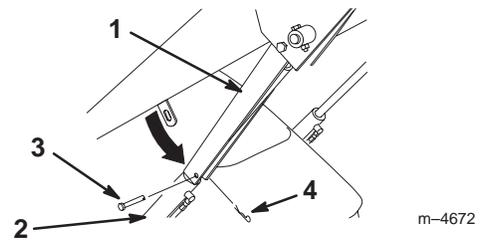

Figure 15
5. Remove the hairpin cotter and clevis pin securing the cylinder lock to the loader arm (Fig. 15)
6. Lower the cylinder lock over the cylinder rod and secure it with the clevis pin and hairpin cotter (Fig. 15).
5. Rotate the cylinder lock up to the loader arm and secure it with the clevis pin and hairpin cotter (Fig. 15).